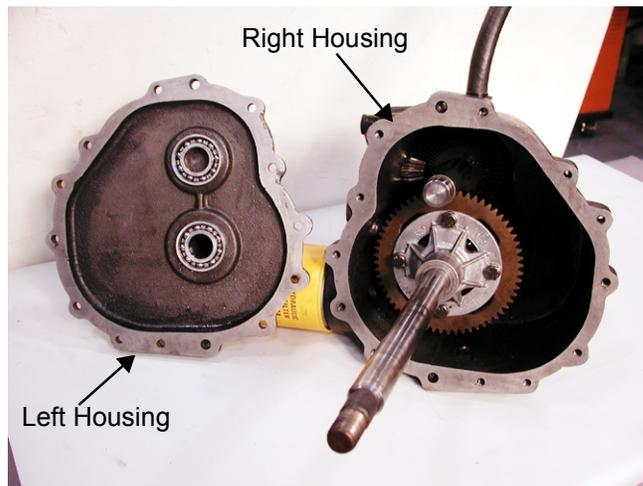

Figure 15
17. Remove the left transmission housing from the right transmission housing. See Figure 15.